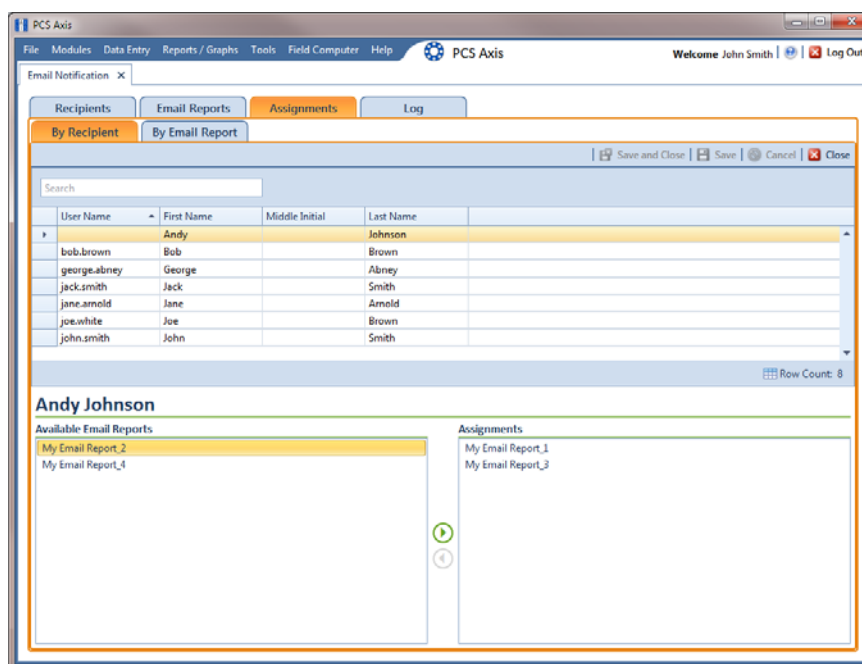

Figure 12-12. Assignments By Recipient
- a Click **By Recipient** if it is not selected (Figure 12-12).